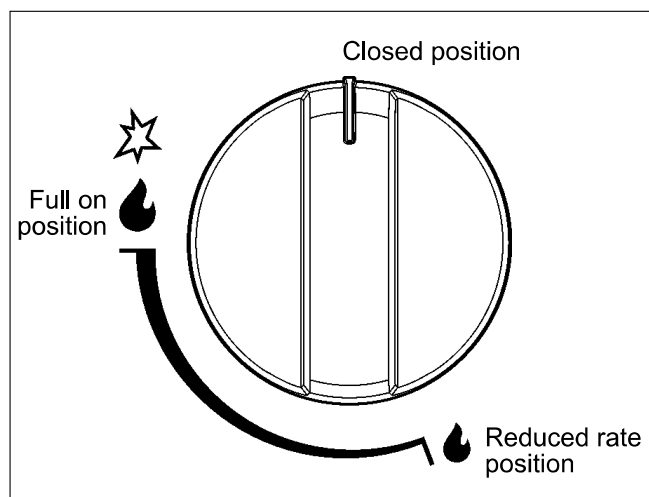

FIG. 1
Push and turn the knob corresponding to the required burner in an anticlockwise direction until it reaches the full on position (large flame fig. 1), then depress the knob.
The knobs of burners equipped with flame failure device must be turned in an anticlockwise direction until they reach the full on position (large flame fig. 1) and come to a stop. Now depress the knob in question and repeat the previously indicated operations.
- When the pan comes to the boil, set the knob to the reduced rate position (small flame fig. 1).
- **burners with flame failure device may only be ignited when the relative knob has been set to the Full on position (large flame fig. 1).**